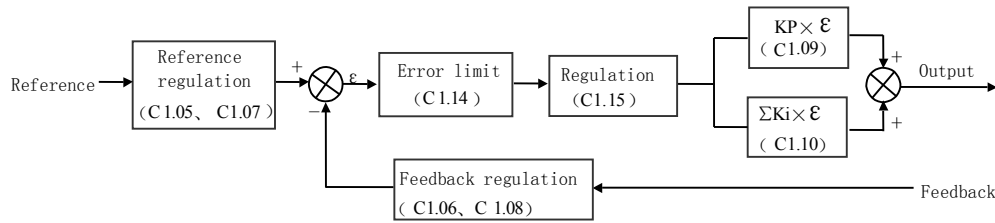
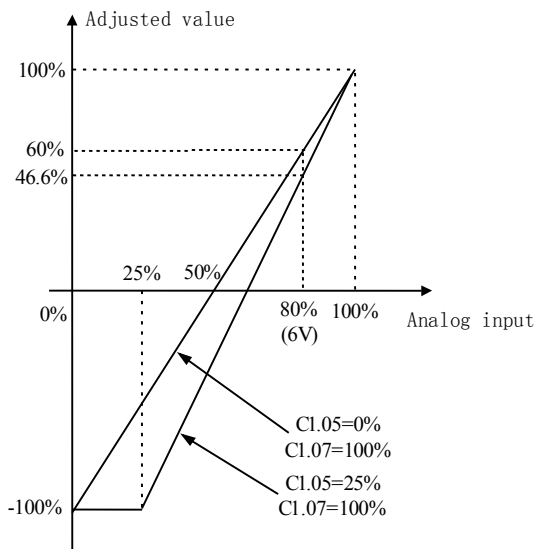

Fig.6-41 Principle diagram of process close-loop control
Fig.6-43 Regulation curve of reference
Operating principles of internal process close-loop of FV100 is shown in the Fig. 6-41
In Fig. 6-41, refer to C1.00~C1.14 for the definitions of close-loop reference, feedback, error limit and proportional and Integral parameters.
The regulation relationship between C1.05,C1.07(in Fig.6-41) and reference is shown in Fig.6-43.When the analog input 6V,if C1.05=0% and C1.07=100%, then adjusted value is 60%.If C1.05=25% and C1.07=100%, then the adjusted value is 46.6%.
1. Fig.6-43,0%~100% in X axis is corresponding to analog input -10V~10V,10V of analog input is corresponding to 100%,and -10V is corresponding to 0%,6V is corresponding to 80%.
The regulation relationship between C1.06, C1.08(in Fig.6-41) and feedback is similar to reference regulation.Its adjusted value can be observed in d0.25.